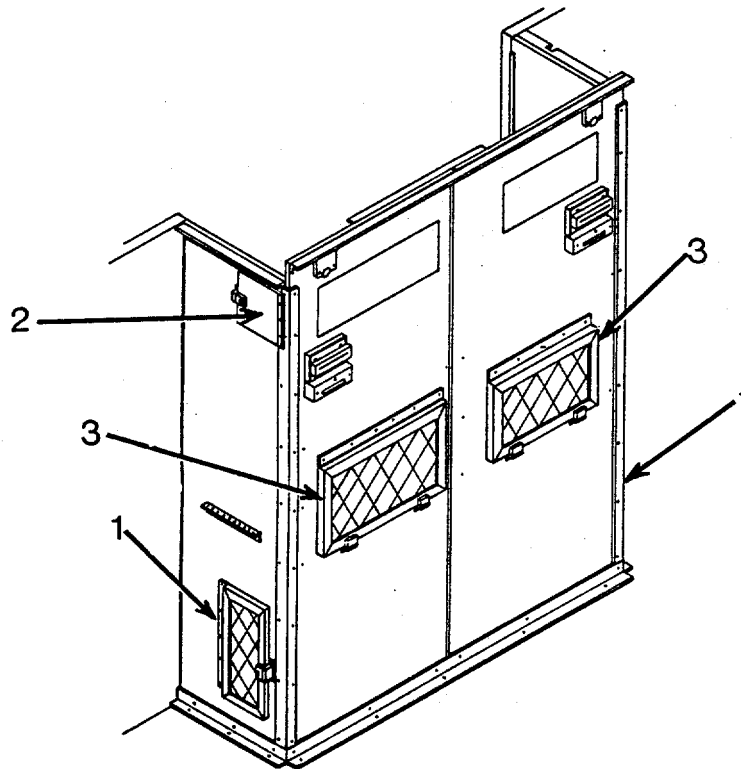

Figure 4-10. Air Conditioner Housing Assembly
4-17. **AIR CONDITIONER HOUSING ASSEMBLY.** Refer to figure 4-10 for location of air conditioning assembly components (sidewall vent assembly (1), heating element access plate (2), and front wall vent assembly (3)).